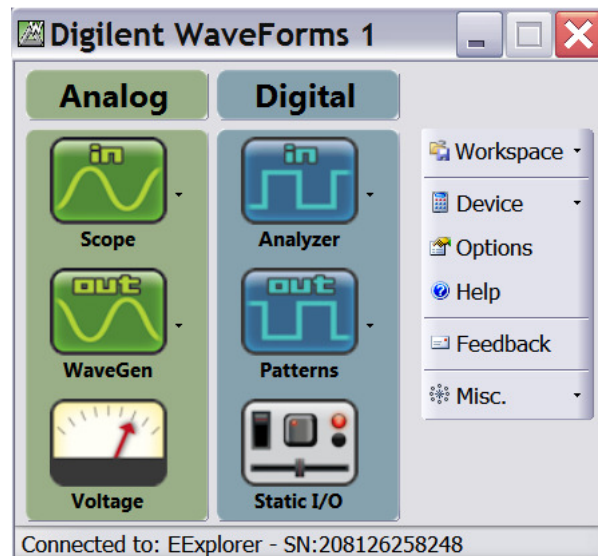
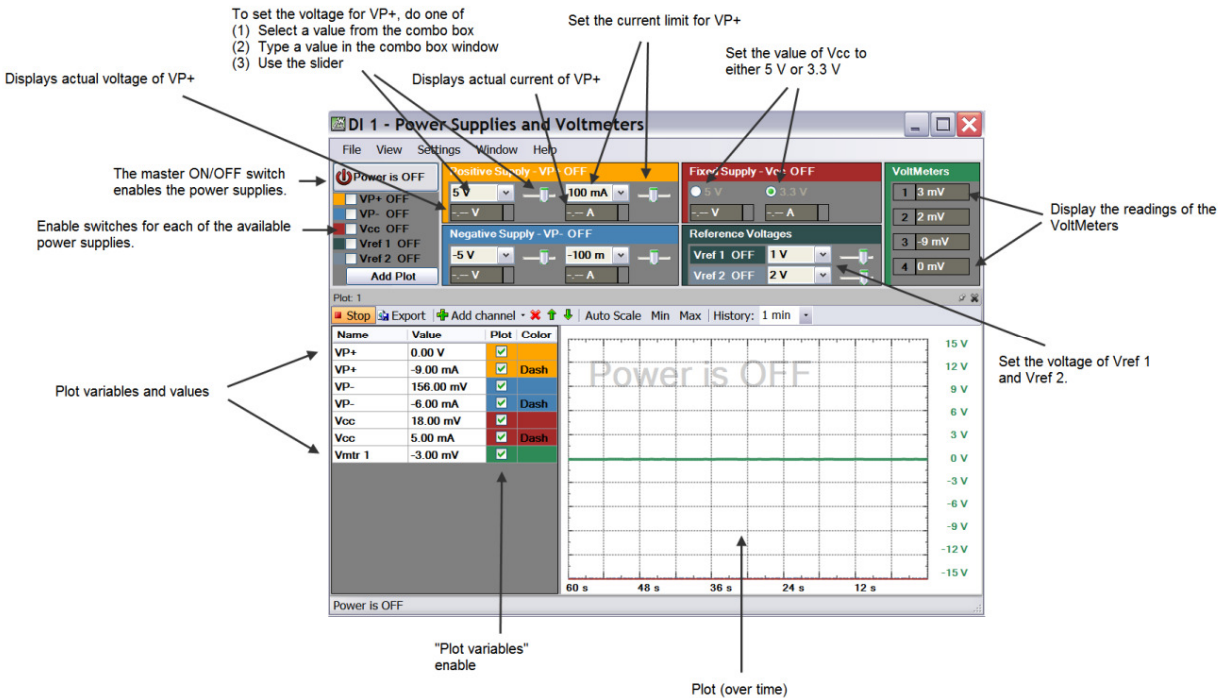

Figure 2. WaveForms main window.
Figure 4. Power supplies and voltmeters window.
- e. **Run Software:** Start the WaveForms software. One approach (using, for example, Windows XP) is the sequence **Start – All Programs – Digilent – WaveForms – Waveforms**. The WaveForms software should connect to your EE board and the WaveForms main window should open, as shown in Figure 2.
The Power Supplies and Voltmeters instrument is activated by clicking on the button labeled Voltage on the WaveForms main window (see Figure 2). Figure 4 shows the main window of the Power Supplies and Voltmeters instrument with annotations indicating primary features of the window.